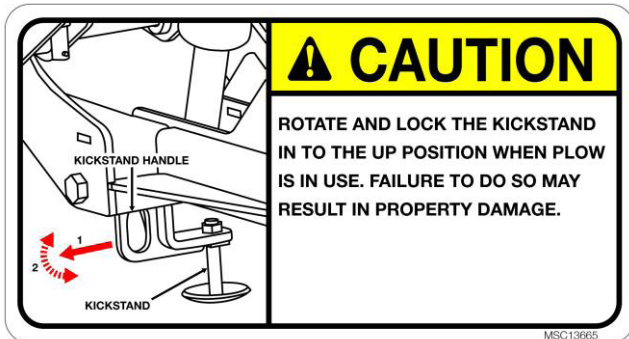

Figure 11. Kickstand Operation MSC13665
1. Locate and adjust the plow Kickstand to the lowered position by pulling the Kickstand Handle straight outward while rotating the Kickstand counter-clockwise, downward until it locks. See Figure 11.